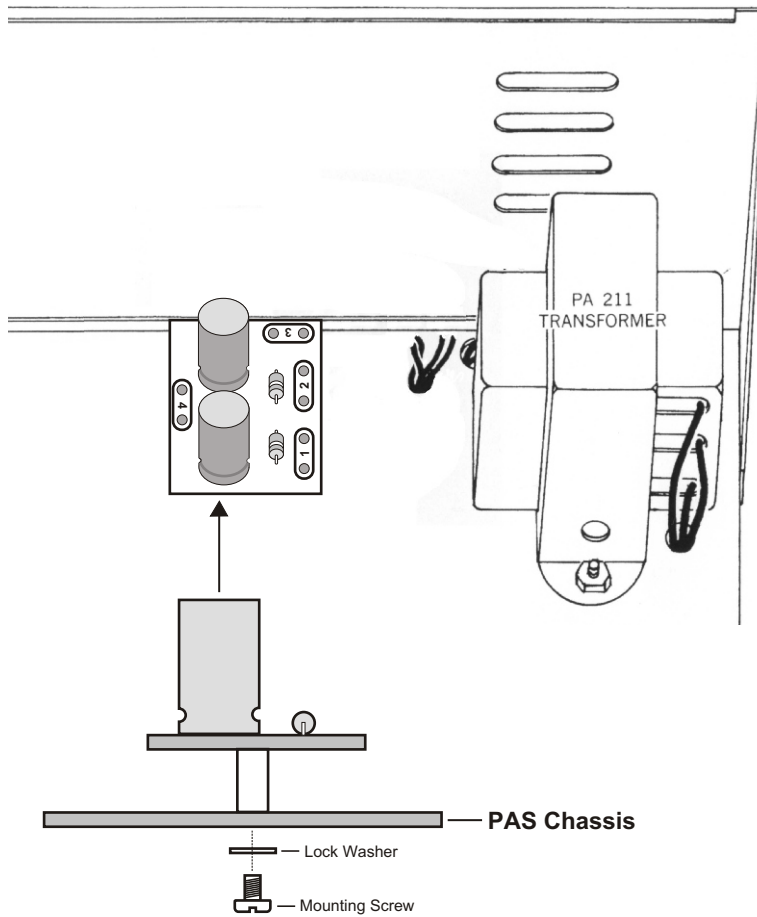

Fig. 3
Refer to Fig. 3 for the following step:
- ④ Install the replacement board in the orientation shown in Fig. 3. Use the supplied mounting screw and lock washer to secure the board using the same chassis hole that was used to mount the selenium rectifier.